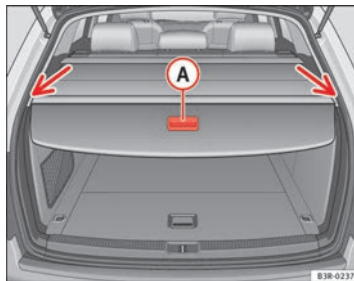

Fig. 119 Rear lid open with luggage compartment cover closed
- Using handle **A** ⇒ Fig. 119, pull the rolled-up cover evenly towards the rear of the vehicle.
- Insert the ends of the bar into the grooves in the left and right-hand side trim ⇒ Fig. 119 (arrows).